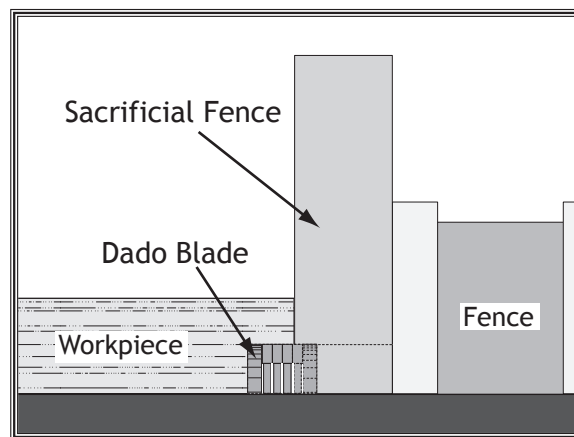

Figure 89. Rabbet cutting with a sacrificial fence.
3. Adjust the fence and align the workpiece to perform the cutting operation, as shown in **Figure 89**.